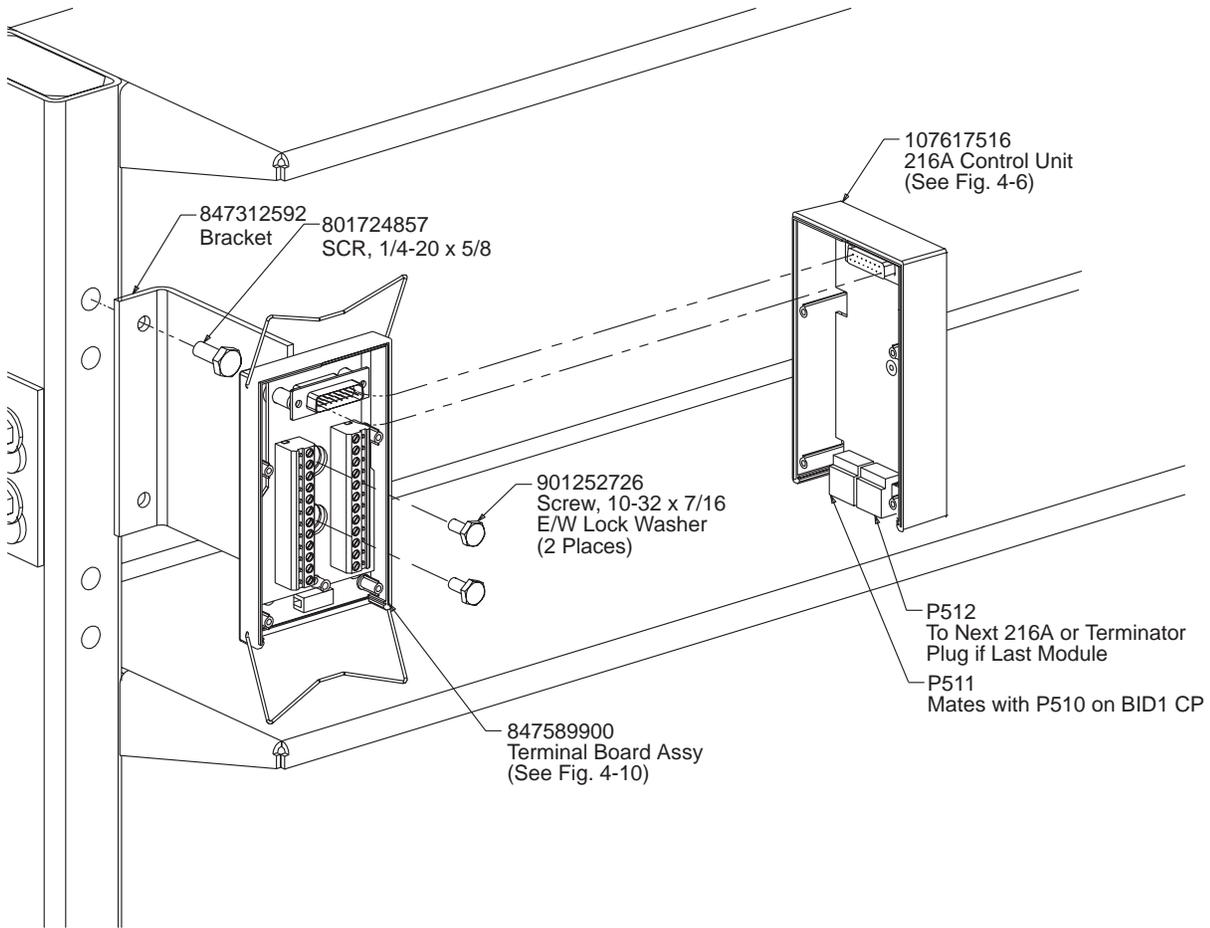

Figure 4-10: 216A Battery Thermal Compensation Control Unit installed on frame
4. Mate the 216A Control Unit to the Terminal Block Base Assembly. See Figure 4-10. Latch the two units together with the clips on the base.